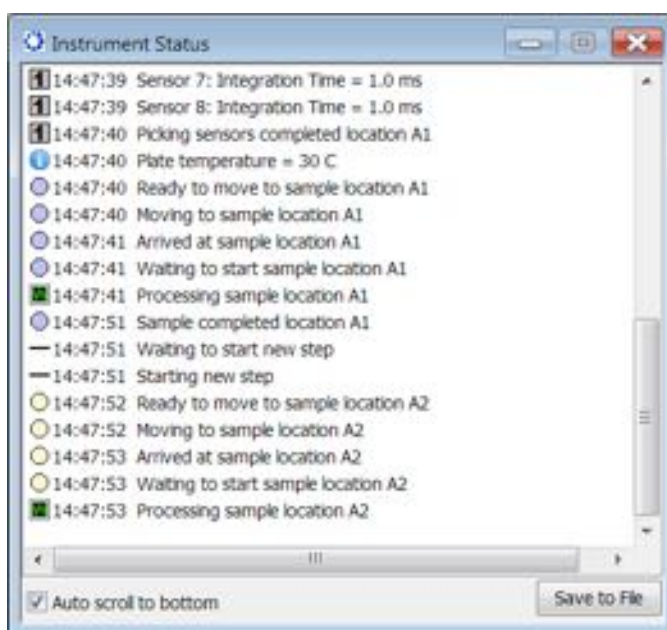

Figure 6-55: Instrument Status Log
5. Optional: Click **View > Instrument Status** to view the log file (see Figure 6-55).